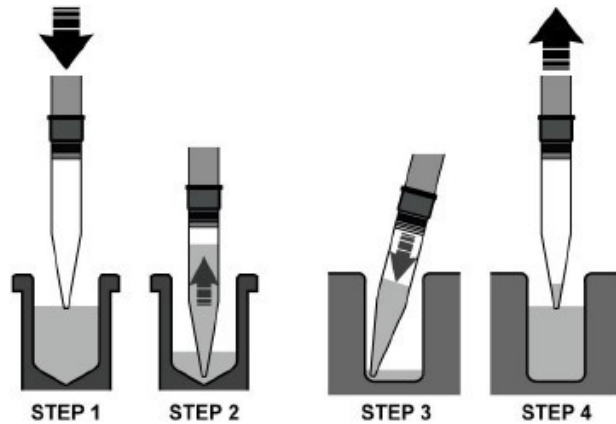

Figure 19. Reverse pipetting.
- 1 Remove the chip from the instrument and manually Aspirate liquid from the sipper (as shown in Figure 19 and text). Note- for pDNA Assay, the aspiration may be done with gel still loaded in the caddies. Once liquid is seen to flow through the sipper, reinsert the chip onto the GX Touch and restart the run.